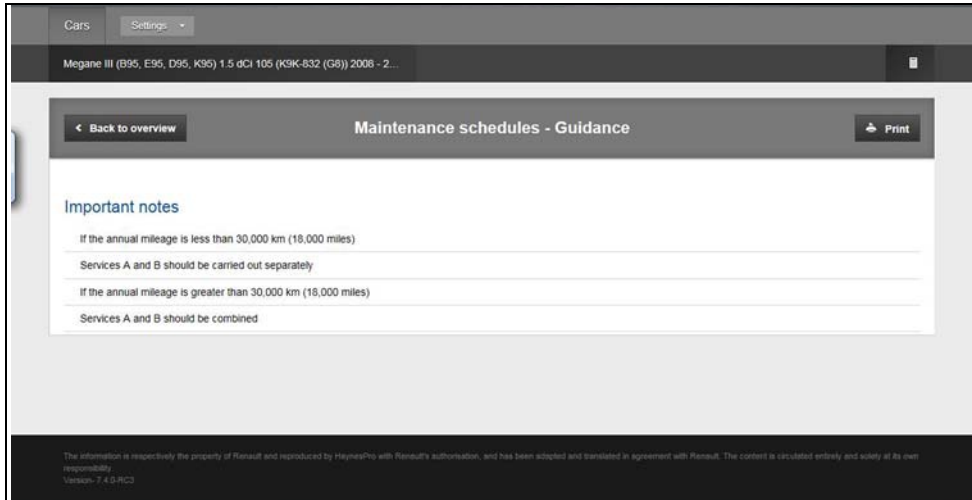

Figure 9-14
- **Schedule Guidance** - (Figure 9-14) Important notes and guidelines about the available schedules.